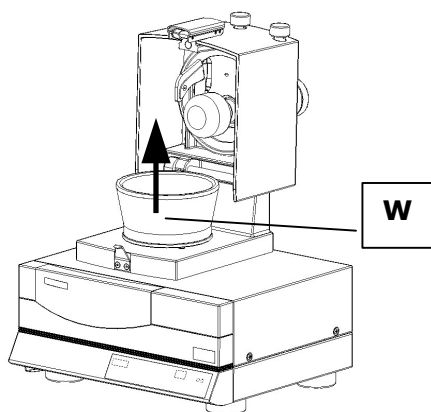

Fig. 2
- Remove mortar **W** **Fig.2**